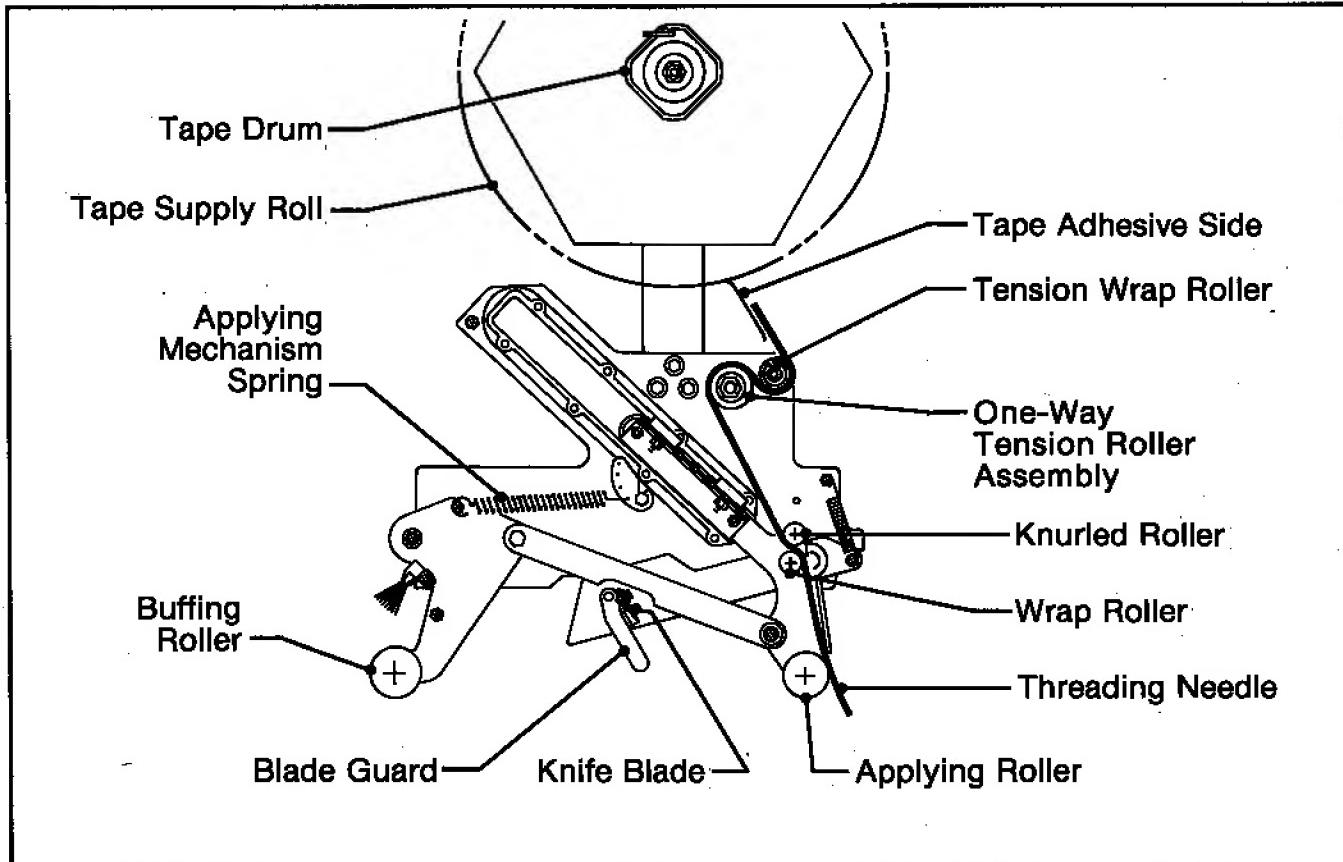

Figure 4A – Tape Threading Diagram – Right Hand Taping Head – Top View
1. BOTH THE SMT TAPING HEADS UTILIZE AN EXTREMELY SHARP KNIFE BLADE ON THE ORANGE CUTTER LEVER ASSEMBLY THAT IS LOCATED UNDER THE BLADE GUARD WHICH HAS THE "CAUTION - SHARP KNIFE" LABEL. BEFORE WORKING WITH THE TAPING HEADS OR ATTEMPTING TO LOAD THE TAPE, REFER TO FIGURES 4A AND 4B AND IDENTIFY THE BLADE LOCATION. KEEP HANDS OUT OF THESE AREAS EXCEPT AS NECESSARY TO SERVICE THE TAPING HEADS.
Refer to Figures 4A, 4C and 4D